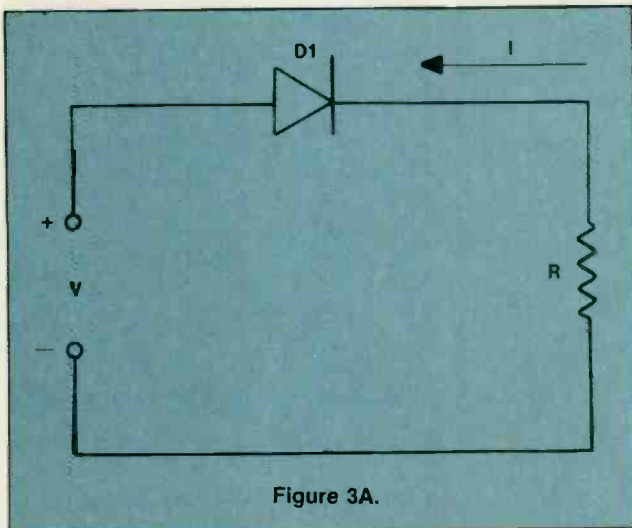
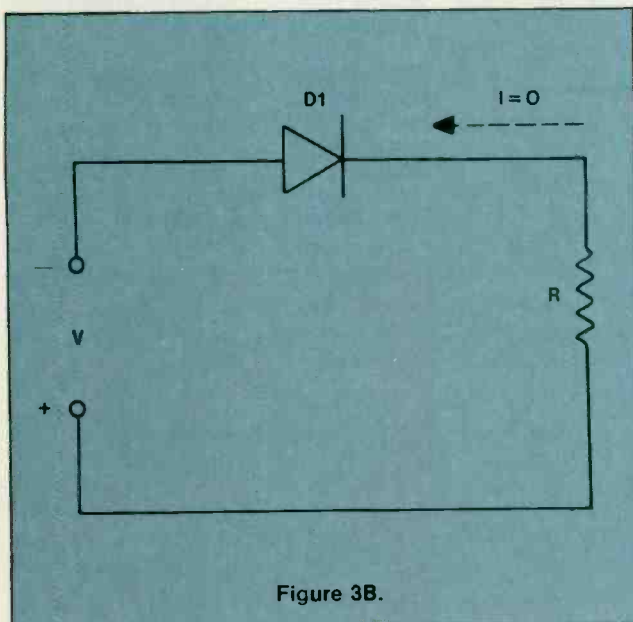

Figure 3A.
Figure 3B.
Figure 3 shows a solid-state rectifier diode (D1) in a simple half-wave rectifier circuit. In Figure 3A, the diode is forward biased: The positive terminal of the voltage source is connected to the anode of the rectifier. In this case, current (I) flows through the load resistance (R). In Figure 3B, we see the opposite situation. Here the negative terminal of the voltage source is applied to the anode, so the diode is reverse biased. No current flows.